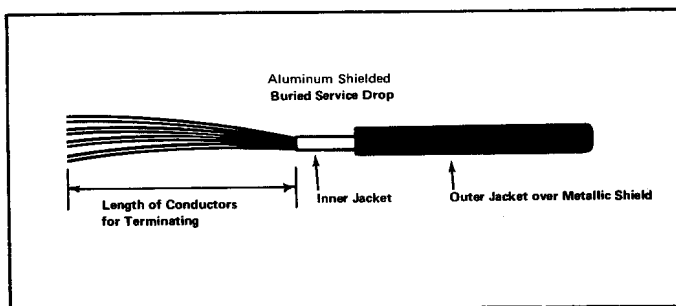

FIGURE 22.
- 2.04 Change Figures 22, 24, 25 and 26 as shown in Figures 1 and 2 of this addendum.